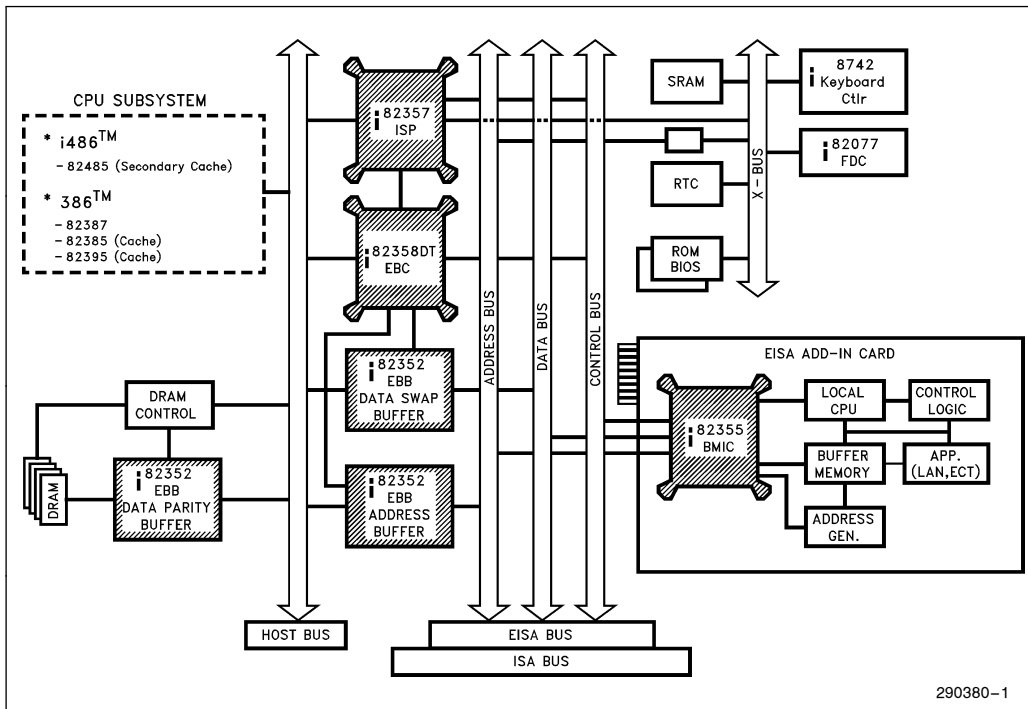
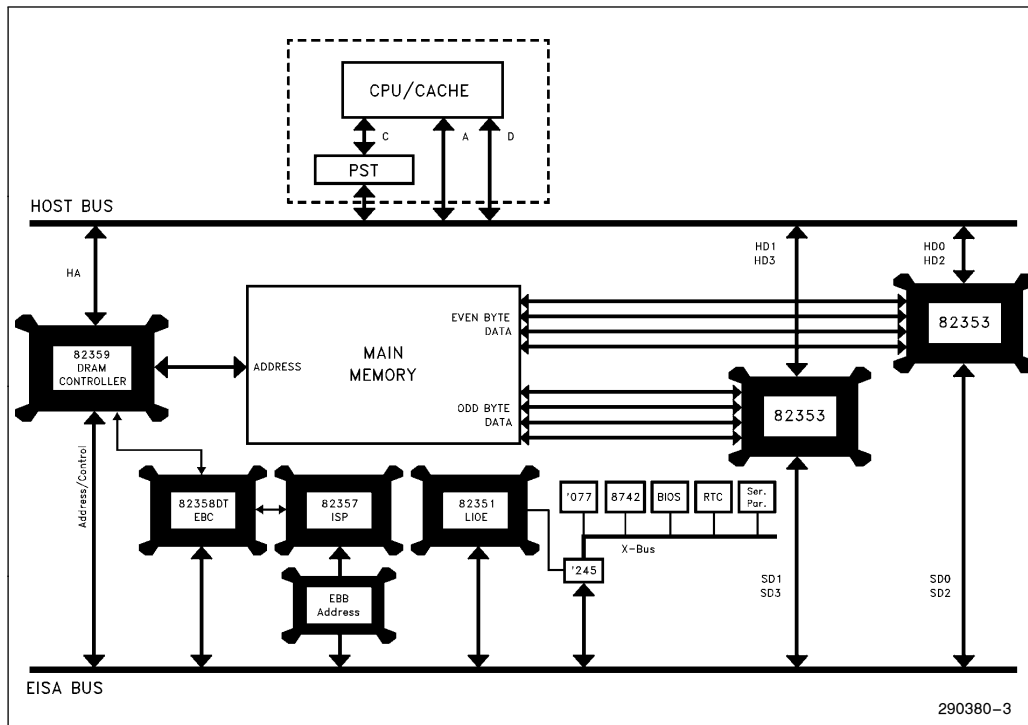

Figure 2-1. 82350 System Environment
Figure 2-2. 82350DT System Environment (Enhanced Configuration)
**82350** - The 82350 system environment (refer to Figure 2-1).
**82350DT/ENHANCED** - The 82350DT system environment selected for an enhanced configuration (refer to Figure 2-2 and section 4.1).
system environment (refer to Figures 2-1 through 2-3). In an 82350DT environment, the 82358DT is further mode selectable to operate in either an enhanced or buffered configuration. A detailed discussion on the various 82358DT modes and configurations can be found in section 4.1.
This unit controls the data swap buffer/latch logic between the host, EISA, and ISA buses. It provides the latching clocks and the output enables for this logic. In an 82350, and an 82350DT/buffered system environment, this logic is implemented using an 82352 EBB (refer to Figures 2-1 and 2-3). In an 82350DT/enhanced system, this logic is implemented using two 82353 Advanced Data Buffers (refer to Figure 2-2).
The address buffer control unit controls the external bi-directional address buffers (implemented using an 82352 EBB) between the host and EISA/ISA bus (refer to Figures 2-1 through 2-3). It provides the latching clocks and output enables for the EBB. In an 82350DT/enhanced system, the 82359 drives the host address directly to the EISA/ISA bus, bypassing the EBB. In this case, the address buffer control unit latches the EISA/ISA address via the 82359 DRAM controller on the rising edge of LALE#. LALE# is tied to IASALE# on the 82359.